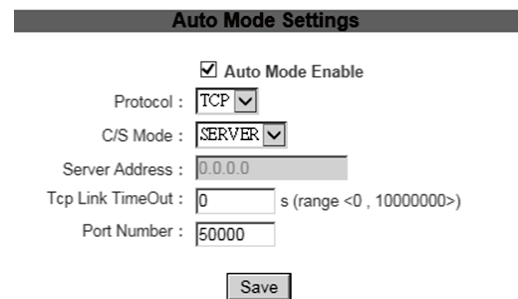

Figure17
5. In “Auto Mode Settings” column, mark a check (default) before the “Auto Mode Enable”, “Protocol” is communication protocol, choose “TCP” (default) or “UDP” to communicate; “C/S Mode” is working mode AP mode reserve preset; “Tcp Link TimeOut is equipment standby time disconnection, the “port number” can be set up by your preference (like 50000), click “Save” button to save the setting (Figure17).